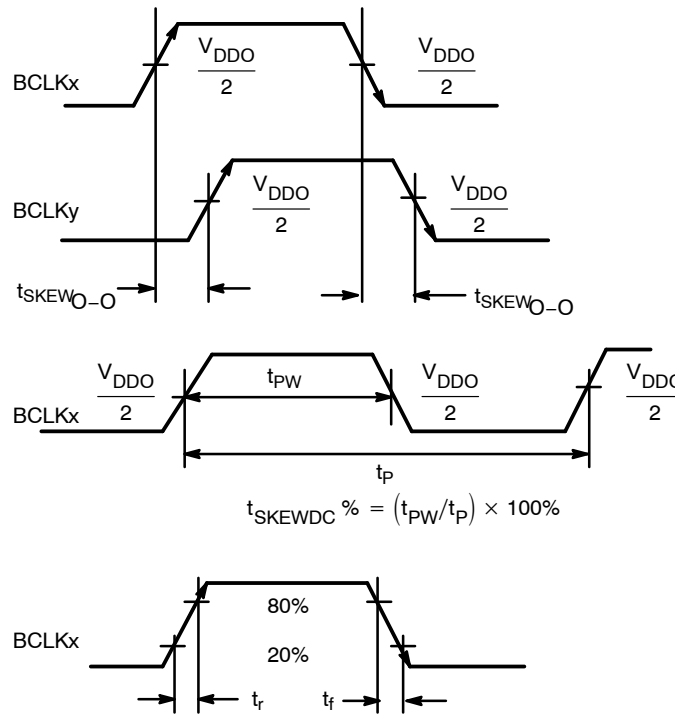

Figure 4. AC Reference Measurement
| tSKEW _{DC} | Duty Cycle Skew (See Figure 4) | 48 | | 52 | % |
| tSKEW _{DC} | Duty Cycle Skew (See Figure 4) | 47 | | 53 | % |
5. Crystal inputs ≤ F_{max}. Outputs loaded with 50 Ω to V_{DDO}/2. CLOCK (LVCMOS levels at XTAL1 input) 50% duty cycle. See Figures 4 and 7. See APPLICATION INFORMATION; Crystal Input Interface for CL loading.